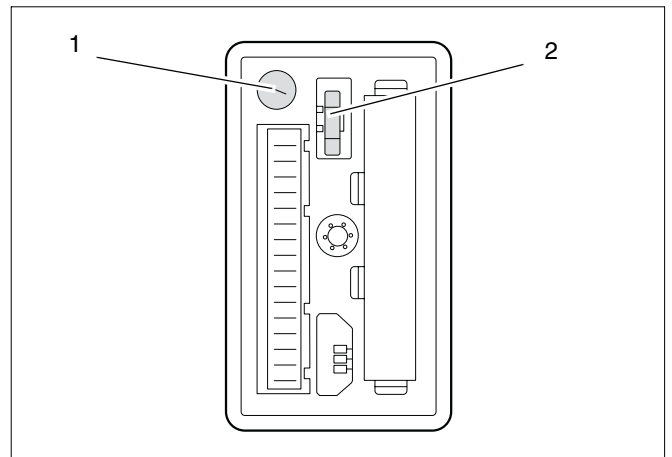

Fig. 44 Checking the fuses
- Dismantle the fuse holder by loosening the bayonet connector (see fig. 44, pos. 1).
- Check the circuit continuity through the fuse using the volt-ohm-multiammeter. If broken, replace it by (a new) spare fuse 5 amps, 120 V slow blow (fig. 44, pos. 2).